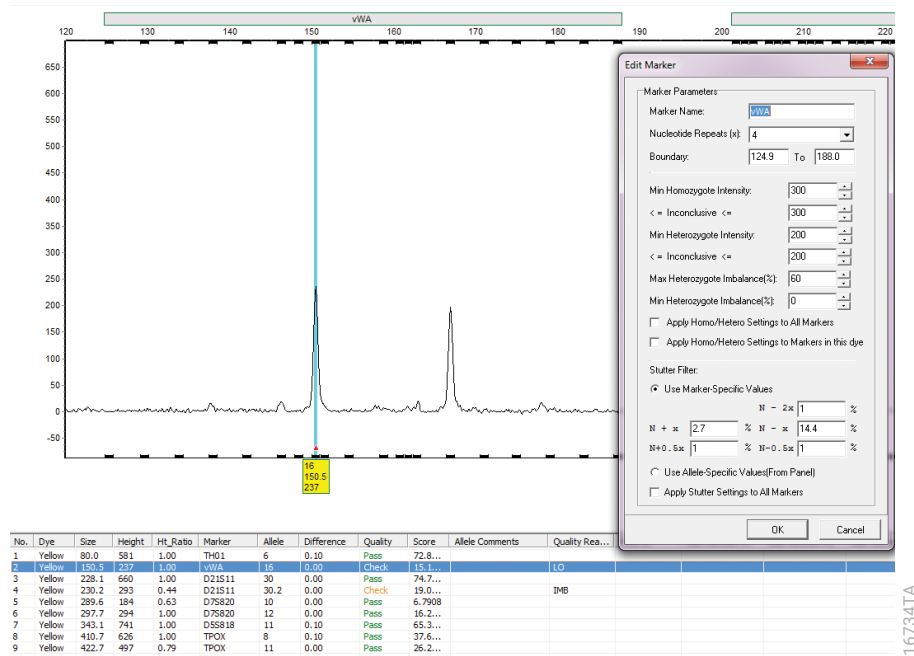

Figure 63. Example of 'Min Heterozygote Intensity' exception.
Note: If the minimum homozygote intensity and minimum heterozygote intensity thresholds are different from each other, a single peak above the 'Min Heterozygote Intensity' but below 'Min Homozygote Intensity' will be called and labeled with a yellow "Check" quality flag, with the quality reason of "Low Intensity" (LO) (Section 10) if a second peak is detected above the 'N-x Stutter Filter' value. The second peak will not be called, however, because the peak is below the 'Min Heterozygote Intensity' threshold. In the example shown in Figure 63, the 16 allele is above the 'Min Heterozygote Intensity' threshold of 200RFU but lower than the 'Min Homozygous Intensity' threshold. This allele is marked with a yellow "Check" quality flag with the quality reason of 'Low Intensity' (LO). The other peaks in the marker are not labeled as they fall below the 'Min Heterozygote Intensity' threshold.